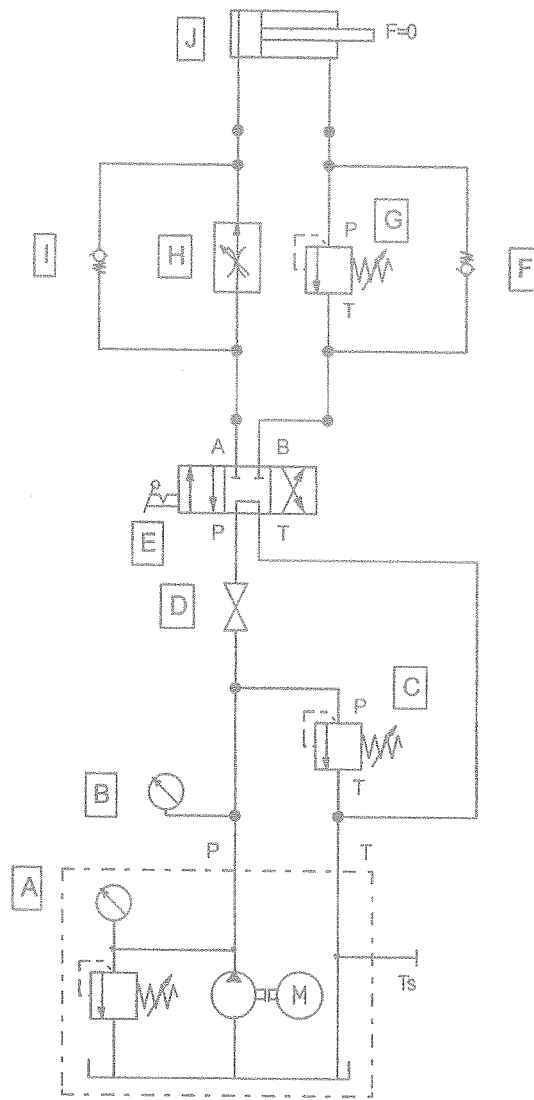

Figure Q5
d) Figure Q5 shows a fluid power circuit designed for a specific task. The hydraulic components of the circuit are indicated in standard graphic symbols. Analyzing the fluid power circuit,